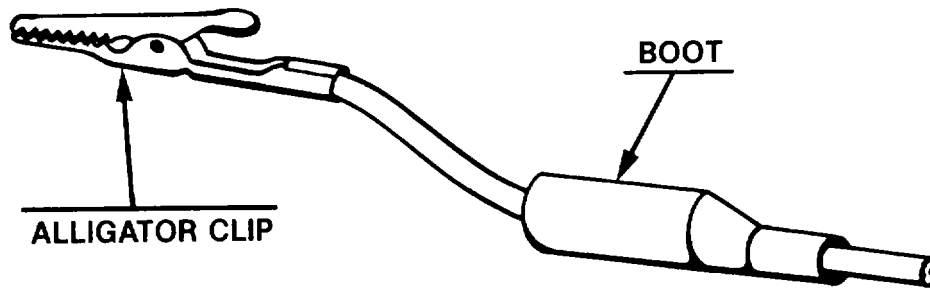

Figure 3-6. Thermocouple Test Lead
- b. Slide back insulator boots on alligator clips and inspect for broken copper strands (See Figure 3-6).
- b. Slide insulated boots onto alligator clips (See Figure 3-6).